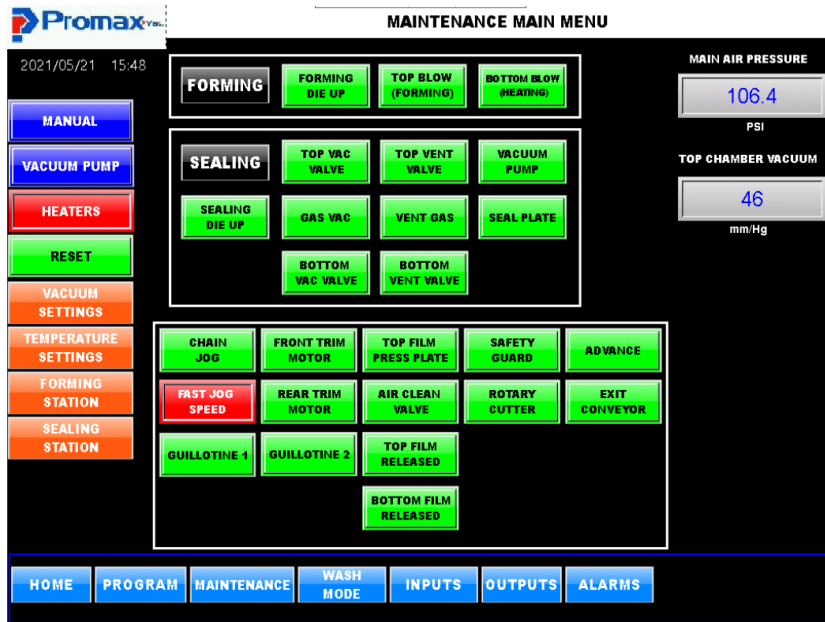

Fig.OP-5.28
-The program screen will appear (Fig. OP-5.28 below).